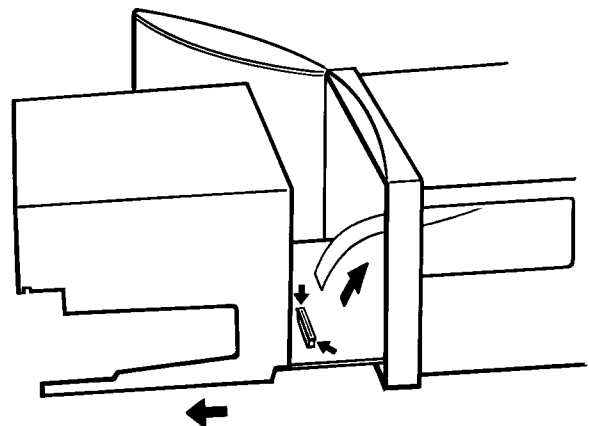

Figure 2 Flexi-cable removal
3. As shown in figure 2, release the flexi (by pulling the ears of the connector housing upwards), and remove the flexi from its connector. Remove the writing system from the case and place the writing system on a static-safe surface.